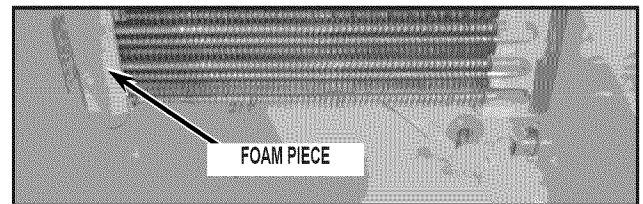

FIGURE 2
6. On the left side of the evaporator, remove and discard the piece of foam. It will not be needed. See *Figure 2*.